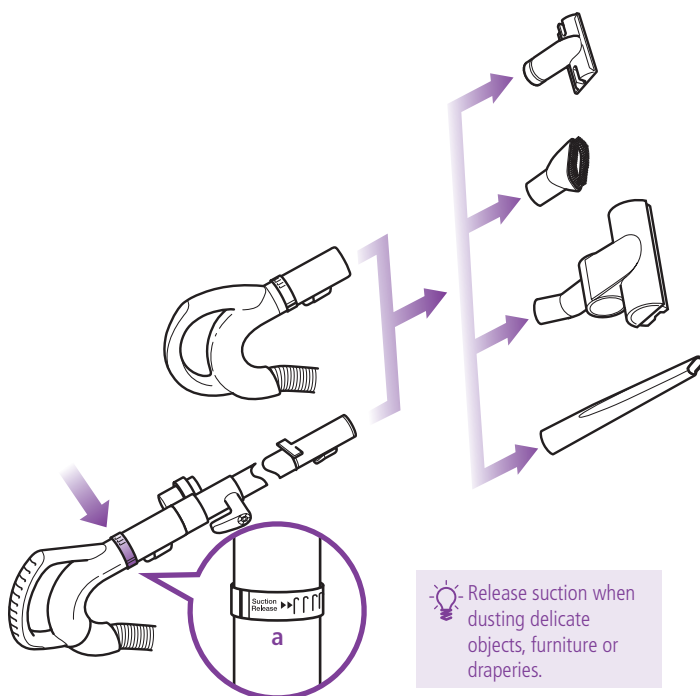

Fig. 17
- 2 Attach desired accessory onto the end of either the extension wand or the handle. (Fig. 17)
- 3 **Your vacuum has tremendous suction power. Adjust the amount of suction with the suction release on the handle. Open the valve (a) by rotating the collar 90° counterclockwise for low suction when doing light jobs such as drapes or fine surfaces. Close the valve (a) by rotating the collar clockwise 90° for high suction and when using the hand held power brush. (Fig. 17-a)**